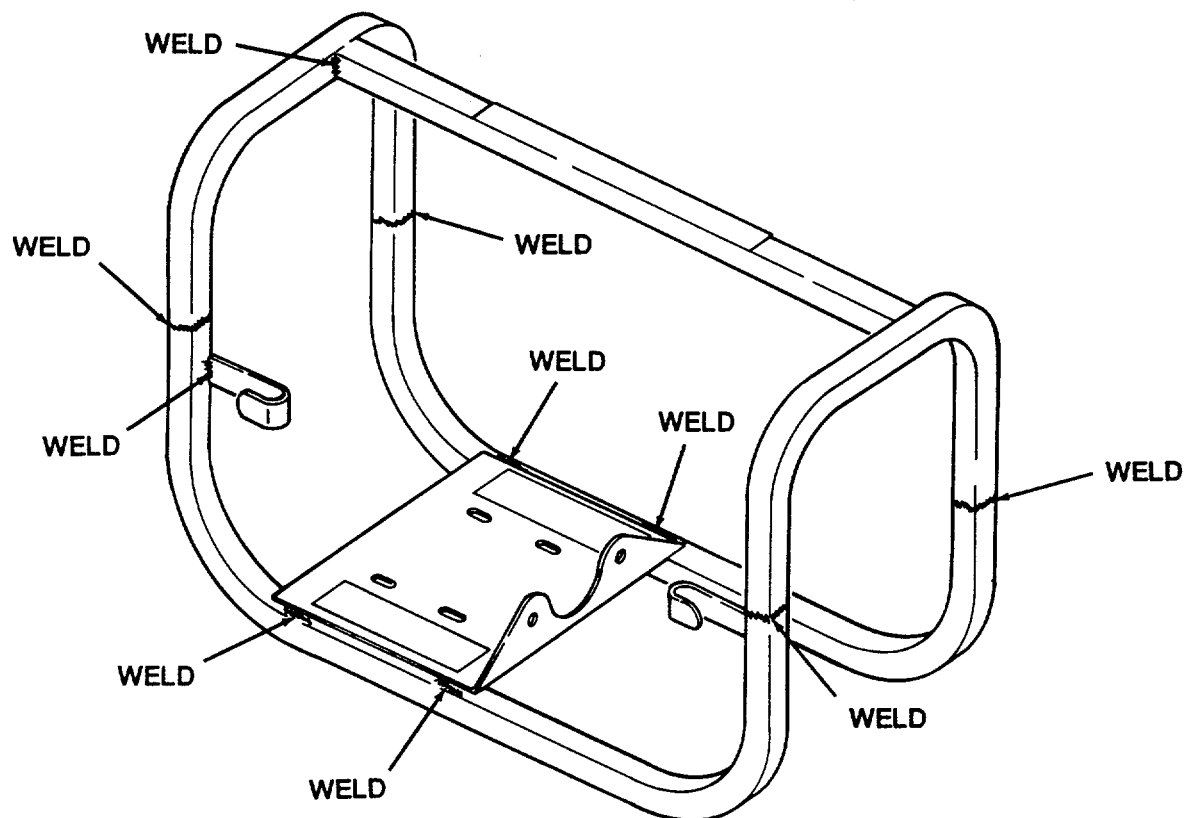

Figure 5-4. Frame Assembly Repair.
a. Repair. (Refer to Figure 5-4).
Repair of the frame assembly is limited to repair of welds in accordance with TM 9-237, Welding Theory and Operations. The weld areas to be examined are indicated in Figure 5-4 .